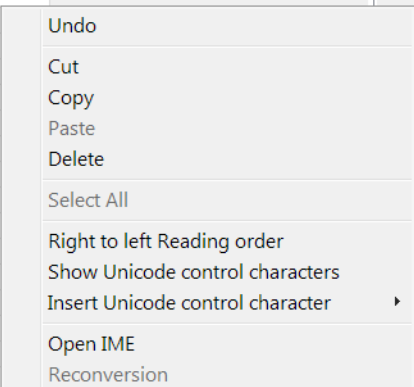

Figure 8-46: Entering or Editing Biosensor Information
- Optional: Double-click in any cell in the **Lot Number** column to enter the biosensor lot number. All wells in the **Lot Number** column for that biosensor type will automatically populate with the lot number entered (see Figure 8-46).
- Optional: Double-click a cell in the **Information** table column. Enter or edit the biosensor information as appropriate (see Figure 8-46).